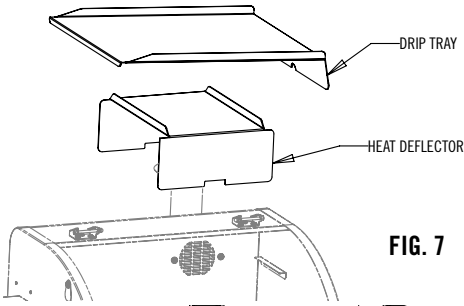
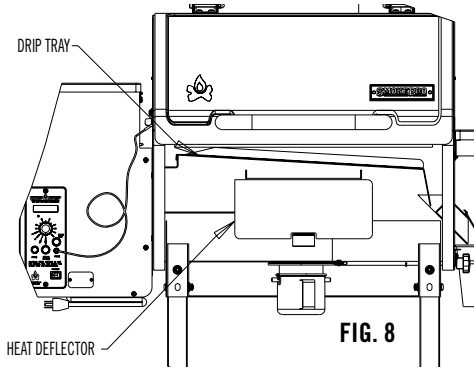

FIG. 7
FIG. 8
1. Install the Heat Deflector and Drip Tray as shown in Fig 7 and Fig 8.